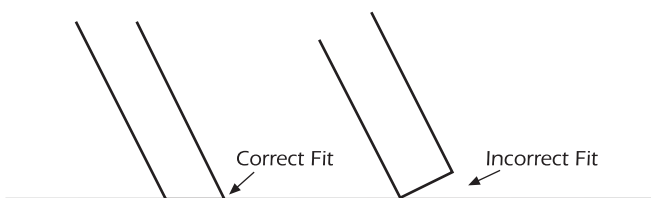

Fig. 9
Step 12– Draw a straight line between the points. Cut each bottom stringer to the proper length, along the lines drawn. The bottom section of the stairs should fit flush with the floor on both sides after cutting. (See Fig. 9)